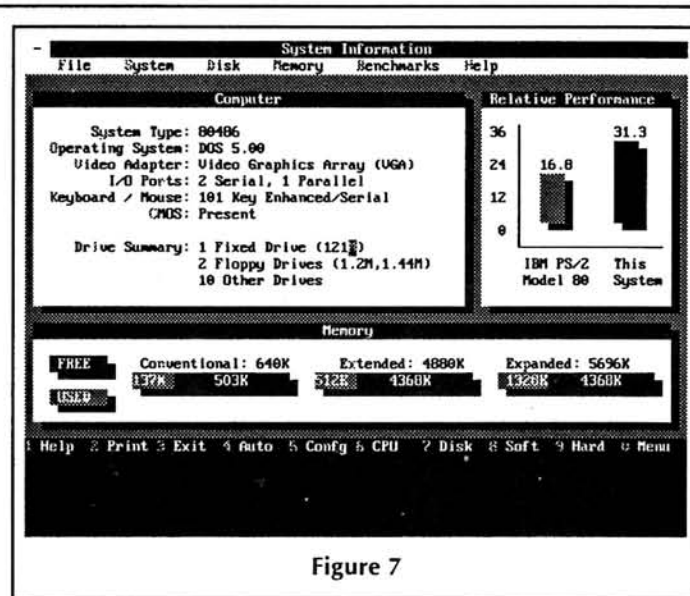

Figure 7
3. SYSTEM INFORMATION (Figure 7) tells you all about your computer's parts.